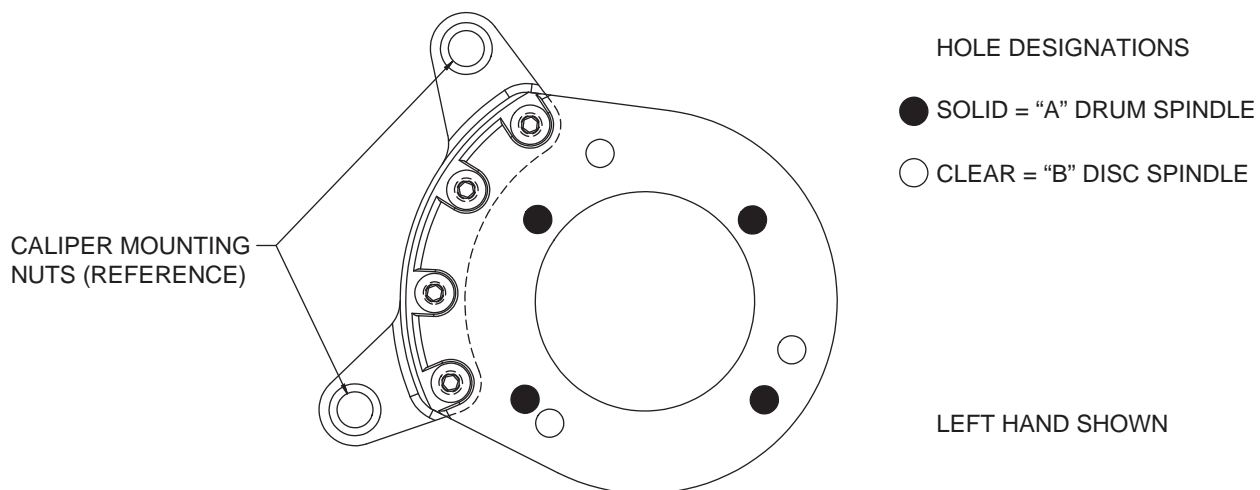
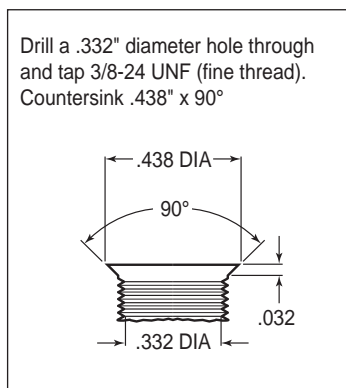
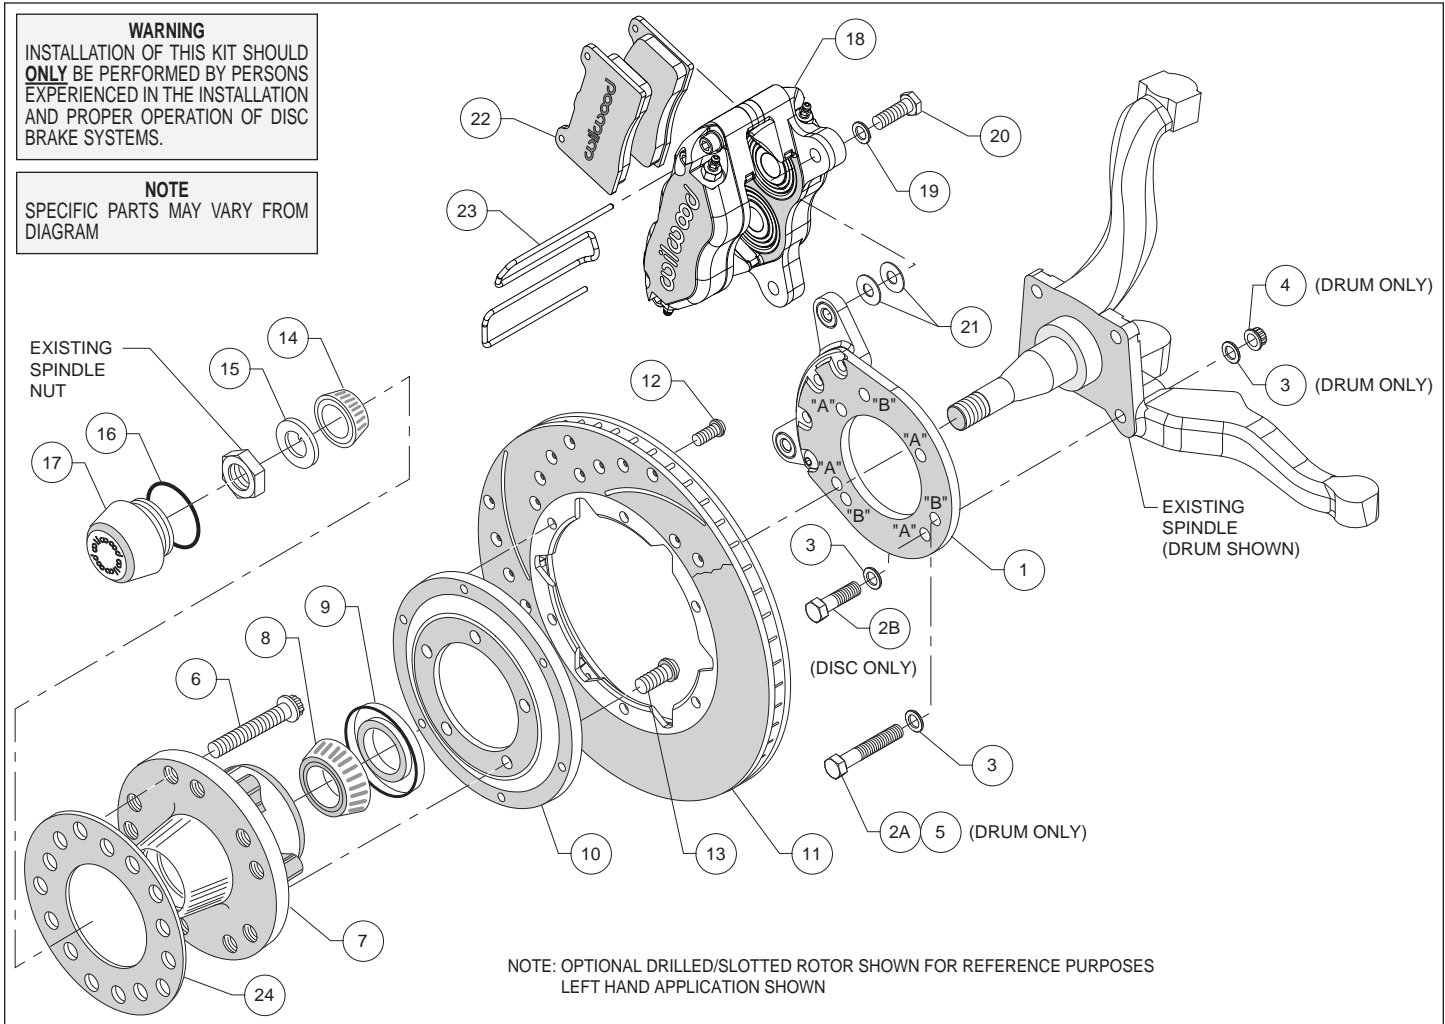
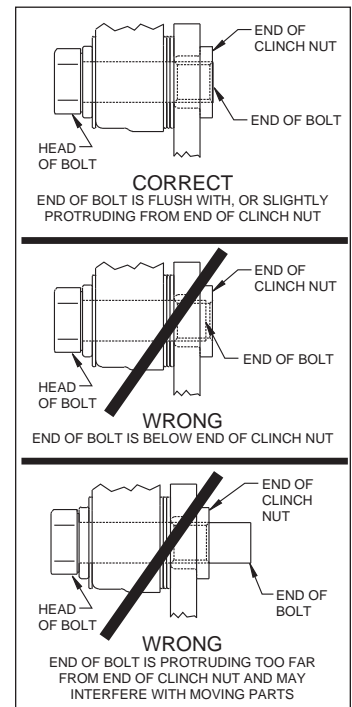

Figure 1. Wilwood Caliper Mounting Bracket
Figure 2. Drill and Tap Detail
Figure 4. Typical Installation Configuration
Figure 5. Clinch Nut Engagement Diagram
This kit has been designed for use with both the disc brake or the drum brake configuration of vehicle. The only difference is in how the Wilwood caliper mounting bracket is installed. The same bracket is used for both configurations; the disc brake version utilizes three mounting holes while the drum brake application uses four mounting holes (see Figure 1). For your convenience we have supplied bolt kits for both applications (see parts list and Figure 4 as necessary). Use the bolt kit that is applicable to your vehicle and disregard the other one.
NOTE: This modification should be performed by a qualified machinist and completed before assembly of the Wilwood disc brake kit begins. Using the caliper mounting bracket as a template (refer to Figure 1 as necessary), locate and verify the three original holes on the spindle that need to be modified. Drill a .332" diameter hole through all three holes, then tap 3/8-24 UNF (fine thread). Countersink the holes to .438" diameter x 90°, as shown in Figure 2.
Assembly Instructions (numbers in parenthesis refer to the parts list, and Figure 4 on the preceding pages): **CAUTION:** All mounting bolts must fully engage clinch nuts. Be sure to check that all bolts are either flush or protruding through flanged side of clinch nut after shimming, Figure 5.
•**NOTE:** This kit uses the same mounting bracket (1) for both the drum and disc brake spindles. The drum version, Photo 1, uses four mounting bolts (designated "A"), while the disc version, Photo 2, uses three (designated "B"). Refer to Figures 1 and 24 for the basic installation position of the bracket and the "A" and "B" reference designations (not physically marked on the brackets).
For Drum Spindle: Align bracket, using the four "A" holes, to the face of the spindle and attach using bolts (2A and 5), washers (3), and lock nuts (4), as shown in Figure 4. Ensure that the flanged heads of the clinch nuts in the bracket are facing outboard, Photo 1. Torque nuts to 30 ft-lb.
For Disc Spindle: Align bracket, using the three “B” holes, to the face of the spindle and attach using bolts (2B) and washers (3), as shown in Figure 4. Finger tighten. Ensure that the flanged heads of the clinch nuts in the bracket are facing outboard, Photo 2. Remove bolts one at a time, apply red *Loctite*® 271 to threads, and torque to 40 ft-lb.
- Install the grease seal (9) by pressing into the backside of the hub (7), flush with the end of the hub, Photo 4.
- Orient the rotor (11) and the rotor adapter (10) as shown in Figure 4 and Photo 5. Attach the rotor to the adapter using bolts (12). Using an alternating sequence, apply red *Loctite*® 271 to the threads, and torque to 25 ft-lb.
- Mount the adapter/rotor assembly (10/11) to the hub (7) using bolts (13), as shown in Figure 4 and Photo 6. Using an alternating sequence, apply red *Loctite*® 271 to the threads, and torque to 55 ft-lb.
- Pack the small outer bearing cone (14) with high temperature disc brake bearing grease and install into hub (7). Slide the hub/rotor assembly onto the spindle. Secure using spindle washer (15) and OEM spindle nut, Photo 7. Adjust bearings per OEM specifications. Install saved OEM nut lock (if any) and a new cotter pin (not included).
- Screw dust cap (17) into hub (7), Photo 8. Friction created by the o-ring (16) on the dust cap keeps it from unscrewing. **NOTE:** The O.D. of the existing OEM spindle washer may be larger than the I.D. of the dust cap not allowing it to seat against the hub face. Therefore, use the spindle washer (15) supplied with the kit instead of the OEM washer.
- NOTE:** Please reference the caution statement at the beginning of the assembly instructions. Mount the caliper (18) onto the caliper mounting bracket (1) using bolts (20) and washers (19), as shown in Figure 4. Initially place two .035” thick shims (21) on each bolt between the caliper and the bracket, Photo 9. Temporarily tighten the mounting bolts and view the rotor (11) through the top opening of the caliper. The rotor should be centered in the caliper, Photo 10. If not, adjust by adding or subtracting shims between the bracket and the caliper. Always use the same amount of shims on each of the two mounting bolts. **NOTE:** The end of each bolt must be flush with or slightly protruding from the head of the clinch nut, as shown in Figure 5. If necessary place spare shims between washer (19) and caliper